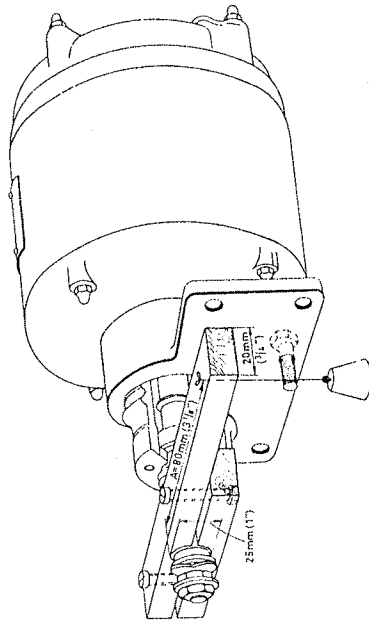

Fig. 39
- Clamp gear wheel "2" between two pieces of hard wood as shown in fig. 39 and adjust the clutch, by tightening nut "4", so that gear wheel "2" does not turn round its spindle when a weight of 10 lbs (4.5 kg) is suspended at a distance "A" of 3 1/8" (80 mm) but that it turns with a weight of 13 lbs (5.5 kg)